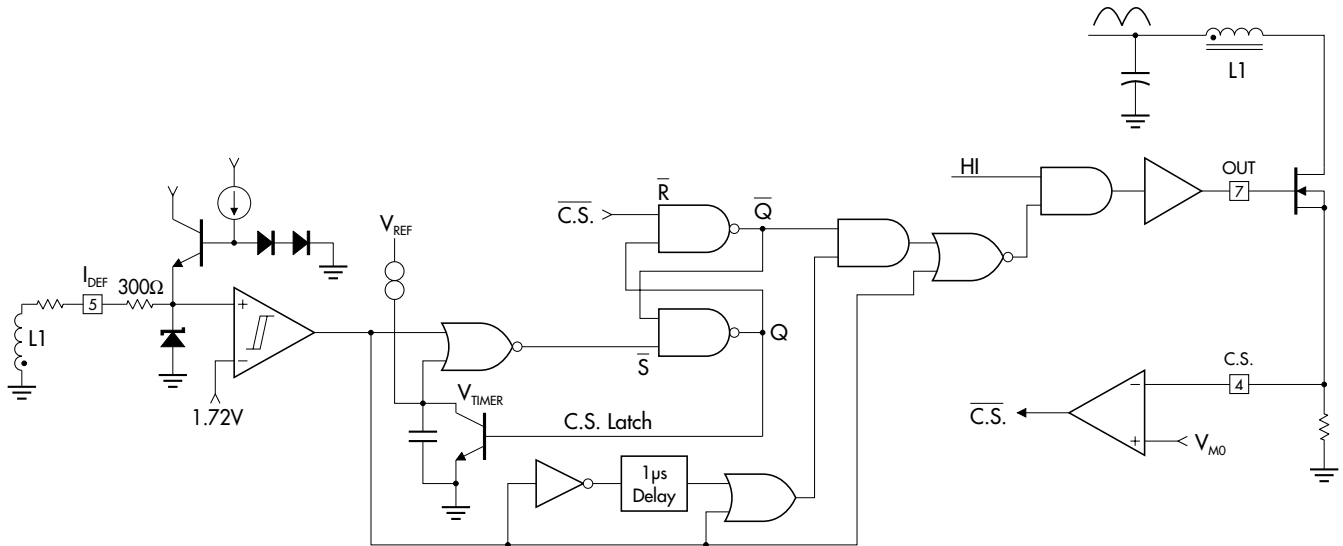

FIGURE 30 — START-UP TIMER & CURRENT DETECT LOGIC CIRCUITRY
The function of "current detect logic" is to sense the operating state of the boost inductor and to enable the output driver accordingly. To achieve this, the downward slope of the inductor current is indirectly detected by monitoring the voltage across a separate winding and connecting it to the detector input "I_DET" pin. Once the inductor current reaches ground level, the voltage across the winding reverses polarity and changes the "I_DET" input and the comparator output to the low state (See Figure 30). When comparator changes state, it sets the latch and turns on the output driver for a period of 1µs (typ.) regardless of any changes in the latch output (\bar{Q}) within this period. This ensures that if the C.S. comparator changes state due to any turn-on spike, the driver output remains on and does not turn off prematurely.
A start-up timer circuit eliminates the need for an external oscillator when used in stand alone applications. The timer, as shown in Figure 30, provides a means to automatically start the pre converter if the latch output \bar{Q} comes up in a wrong (HI) state. The timer capacitor ramps up and resets the latch to a low state, turning the output driver on.